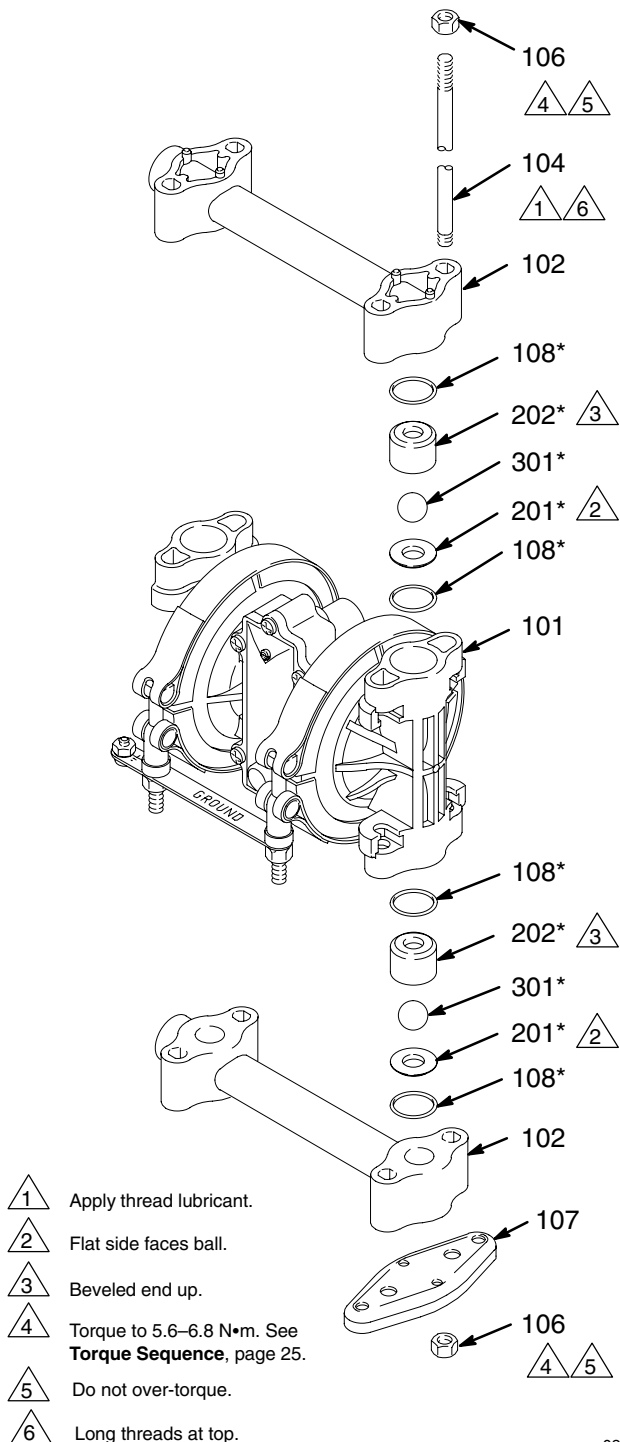

Fig. 13
2. Using a 1/2" socket wrench, remove the nuts (106) holding the top manifold (102) to the covers (101). Lift the manifold off the pump. See Fig. 13.
3. Remove the outer o-ring (108), ball guide (202), ball (301), seat (201), and inner o-ring (108) from each of the covers.
4. Turn the pump over. Pull the tie rods (104) out of the pump, leaving the four nuts (106) on the rods. Remove the feet (107) and lower manifold (102).
5. Remove the outer o-ring (108), seat (201), ball (301), ball guide (202), and inner o-ring (108) from each of the covers (101).
7. Reassemble the intake ball checks in the bottom of the pump, following all notes in Fig. 13. Be sure the ball checks are assembled **exactly** as shown.
8. Set the lower manifold (102) and feet (107) in place on the bottom of the pump.
9. Insert the long threads of each rod (104) through the feet and lower manifold. Push the rods up through the covers (101) until the nut (106) on the end of the rods bottoms on the foot. Make sure the rods are pushed all the way through. Turn the pump upright (the rods are a slight interference fit and will hold the pump parts securely in place).
10. Reassemble the outlet ball checks in the top of the pump, following all notes in Fig. 13. Be sure the ball checks are assembled **exactly** as shown. To avoid pump leakage, run your finger over the o-rings (108) and ensure that they are seated properly.
11. Install the top manifold (102) and four nuts (106). Torque to 5.6–6.8 N•m. **Do not over-torque.** See **Torque Sequence**, page 25.